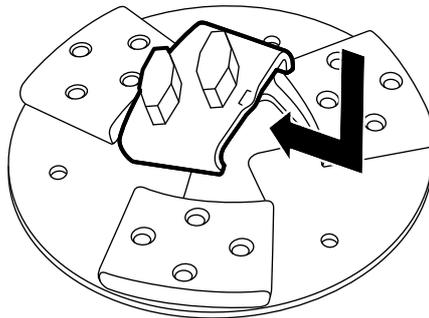

Figure 4-2 Fitting grinding tools
1. Slide the grinding tool diagonally from above down into the appropriate guide slot on the tool holder. Then push the tool fully into the guide slot, see Figure 4-2 on page 16.
2. Slide the grinding tool diagonally from above down into the appropriate guide slot on the tool holder - see Figure 4-2 on page 16. Then push the tool fully into the guide slot.